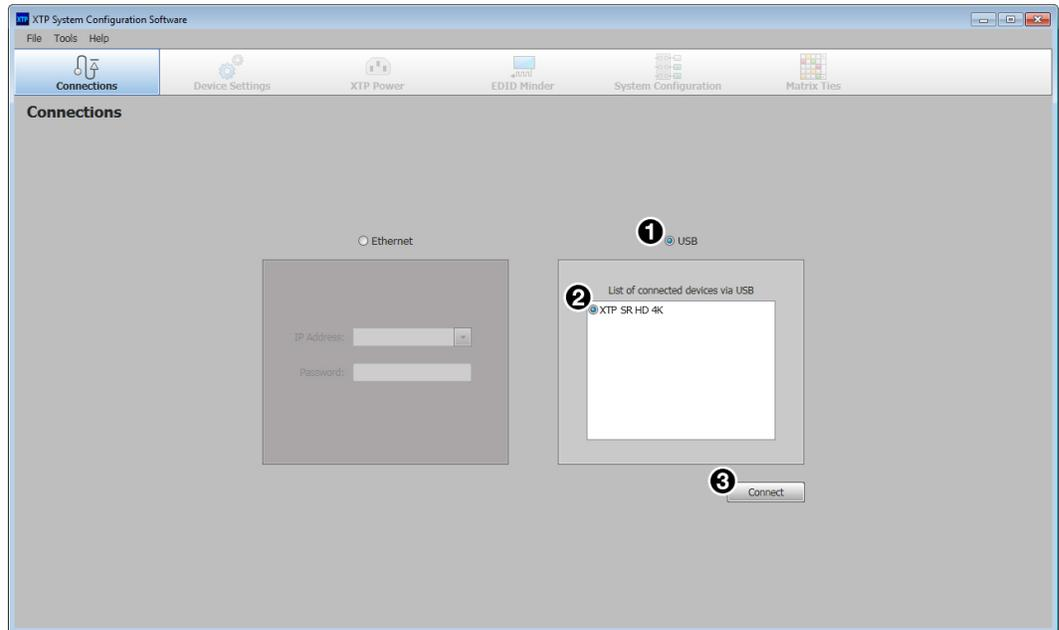

Figure 23. Connections Screen
2. On the Connections screen, select the **USB** radio button (see figure 23, **1**).